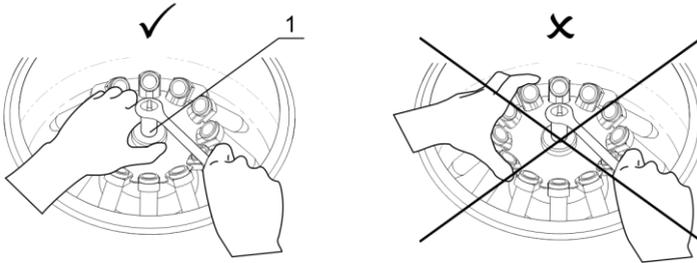

Figure 2. Rotor fixation
- Hold the rotor with one hand and, using the supplied wrench for rotor replacement (13 mm), turn the fixation screw (fig. 2/1) counter clockwise to release the rotor.
Caution! Do not hold the rotor by rings or adapters mounting when mounting and fixing it. Hold the rotor as shown on figure 2 (✓).
Always ensure that the fixation screw on the rotor is holding the rotor tight! See **4.4** and figure 2 for fixation procedure.